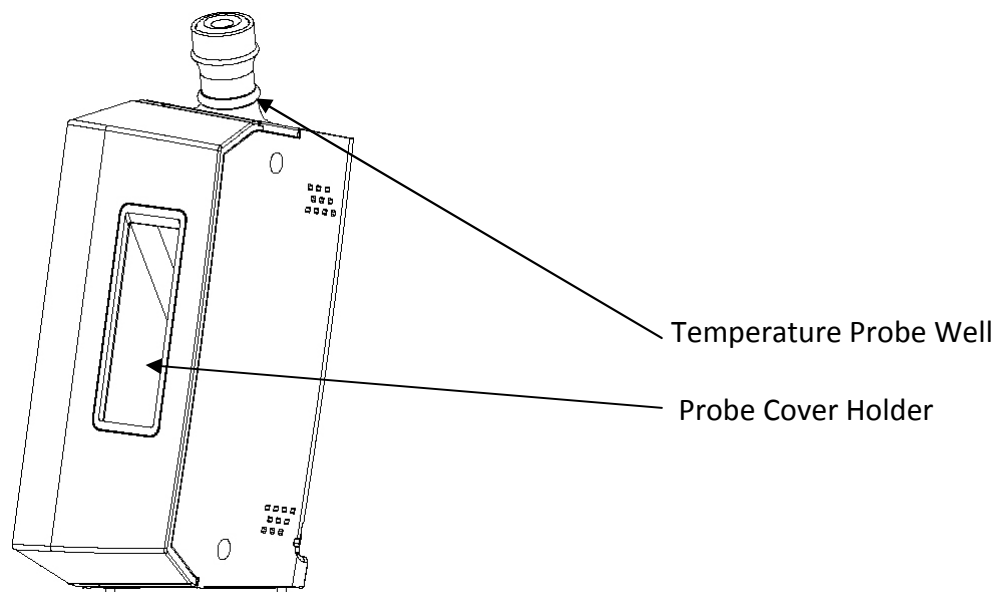
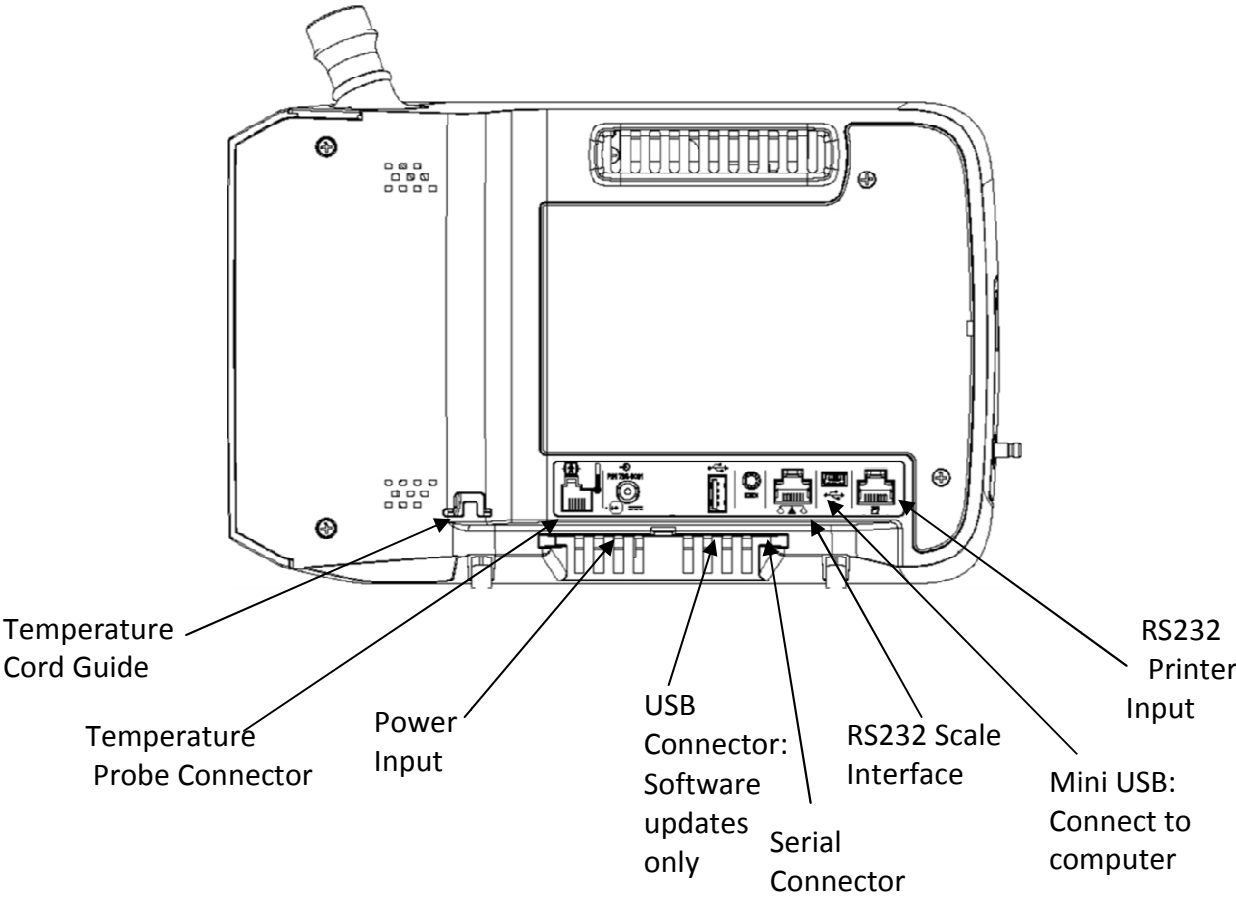

Figure 1
Figure 3
1. Install the temperature probe to its connector located on the back of the device (see **Figure 3**). Thread the temperature probe cord through the temperature cord guide (see **Figure 3**). Insert the temperature probe into its well (see **Figure 1**). Place the box of probe covers (included in the kit) in the probe cover holder of the device (see **Figure 1**).
4. Next, attach the power cord to the device, (see **Figure 3**). The power input is located on the back of the device. Plug the device into the AC wall outlet.
6. If using a **Fairbanks® scale** to connect to IQvitals®, connect the scale to the back of the device (see **Figure 3**). The device will automatically detect that the scale has been connected and is ready for use once connected to the device.
8. If using the IQvitals® external printer, connect the printer to the back of the device (see **Figure 3**). The device will automatically detect the printer once connected.